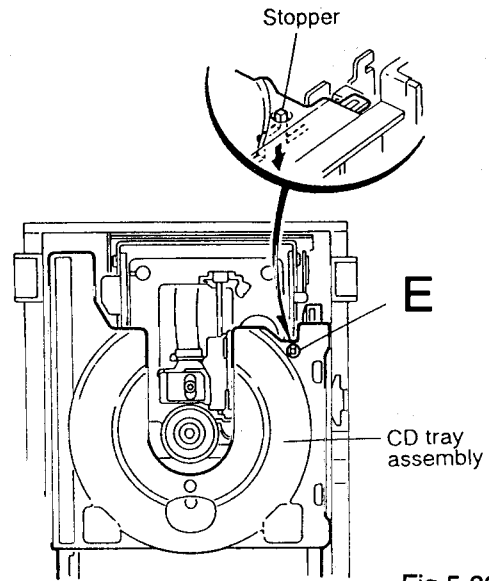

Fig.5-39
11. Check whether the lifter unit stopper has been caught into the hole at the section "E" of CD tray assembly as shown in Fig. 5-39.